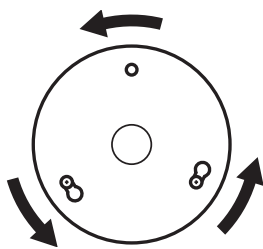

Figure 26 - Mounting the upper switch housing
4. Turn the upper switch housing counterclockwise until the housing assembly screws are firmly situated in the narrow end of the keyhole slots as shown in Figure 26. Install the one remaining #6-32 x 3/8" housing assembly screw into the third hole in the upper switch housing. Tighten all three screws firmly.